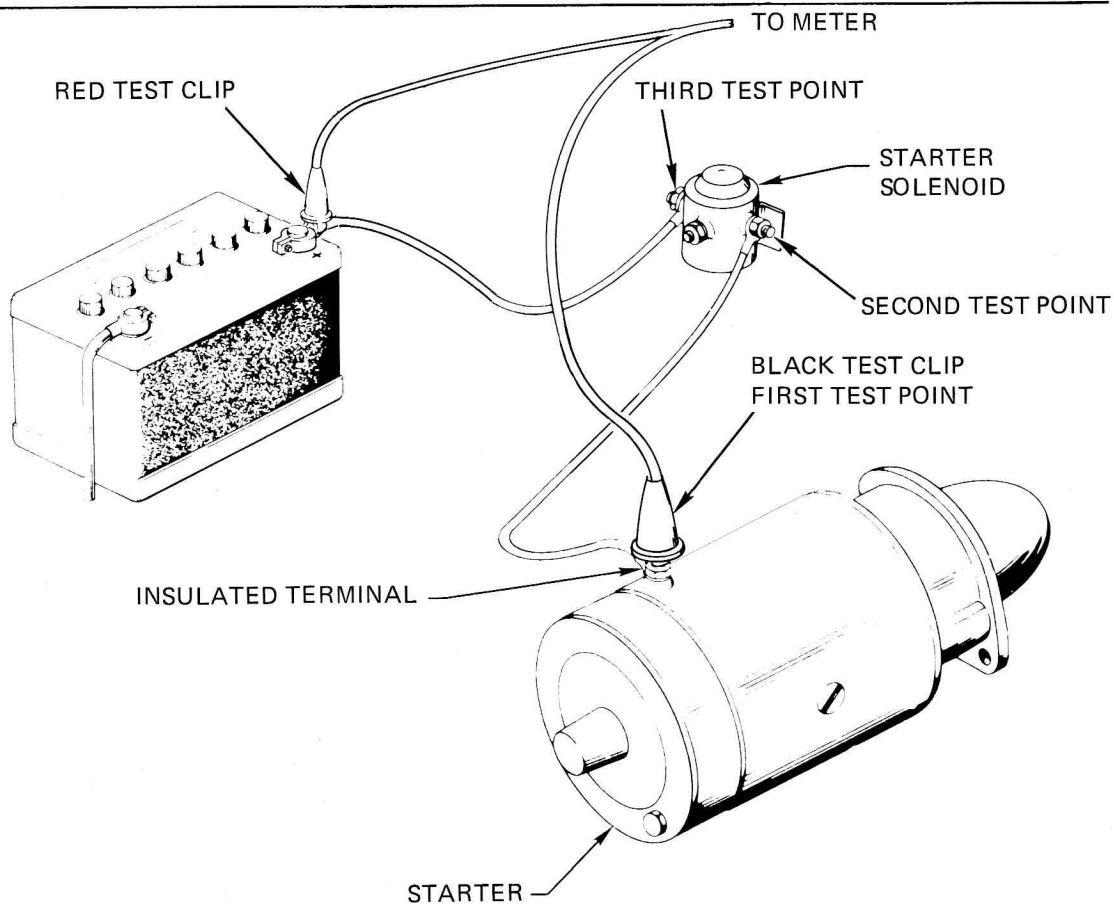
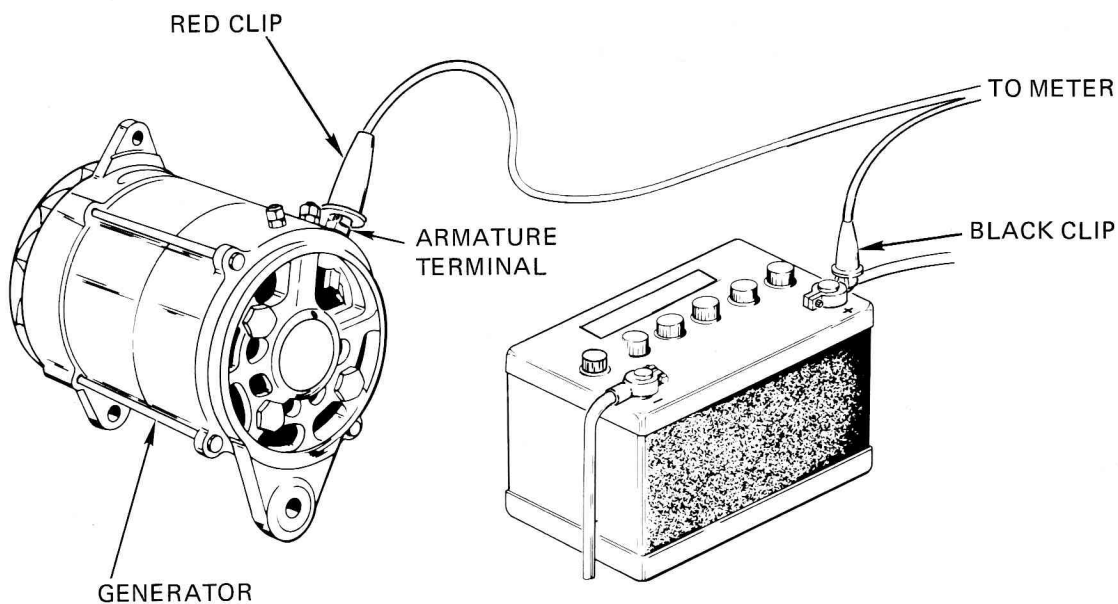

Figure 5 — Circuit Resistance In Starters Insulated Circuit.
Figure 6 — Circuit Resistance In Charging System Insulated Circuit. DC System Shown, Connections To Alternator Are Similar.
2. Connect leads: Circuit resistance in starters insulated circuit. Figure 5. Circuit resistance in charging system insulated circuit. Figure 6.